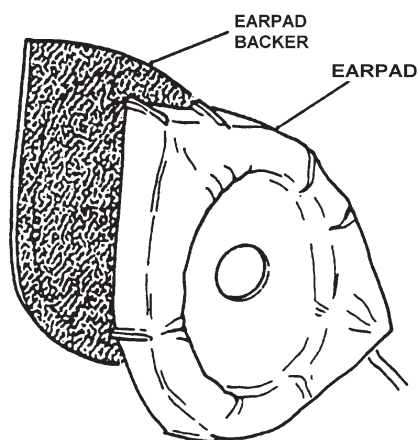

Figure 3-11. Earpad and Backer
- h. Referring to Figure 3-11, position the left-hand and right-hand earcups into the earpads and cover with the earpad backers (optional).